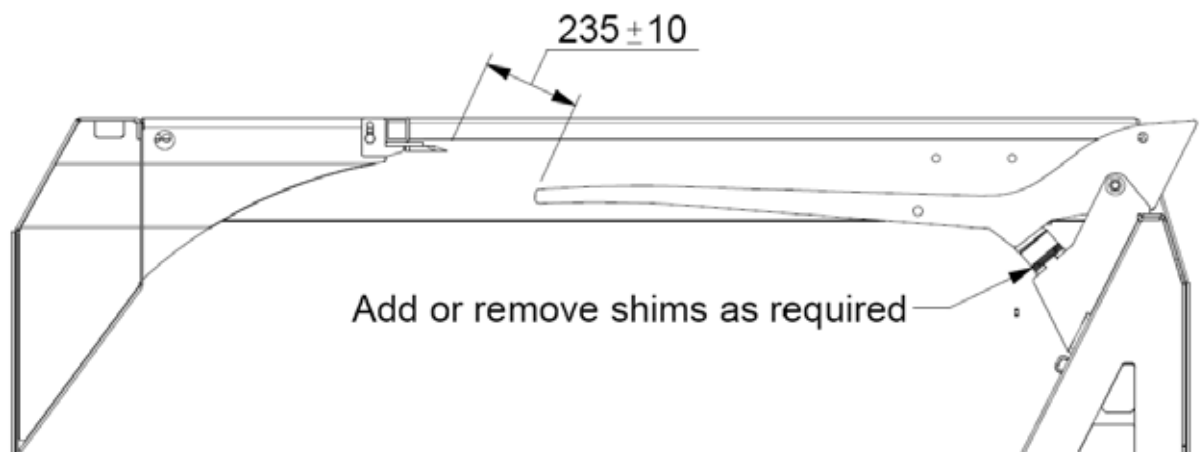

Figure 13: BaleBlend tine to top knife setting
- 3: The rubber buffer should also be checked for wear or signs of damage which may affect its shock absorption. Optimum tine to top knife gap is $235\text{mm} \pm 10\text{mm}$ (see Figure 13), but may vary depending on application and the design of tine fitted. Please consult your local Service Centre for settings.